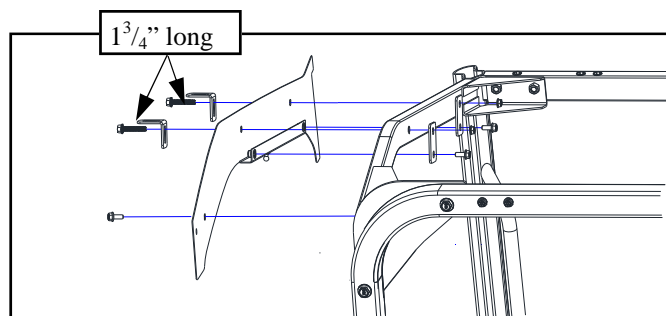

Fig. 2.2
2.2 Per Figure 2.2, fasten the left door header and two (2) door header mounting brackets to the ROPS using the factory installed inserts and the hardware listed below. **Leave loose at this time.**